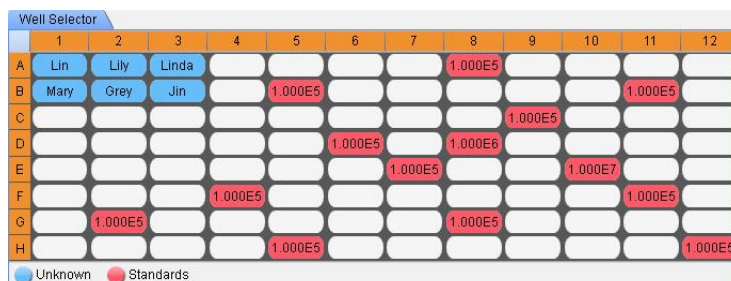

Fig 4- 4
- **Change information to display on the well plate:** As a default, the project name is displayed on the well plate. Users can change the information display on the well plate. Right-click the Well Selector, select the menu of **Well Display**, and you can choose to display the project name, patient name (Fig 4- 4), label,tube name or sample name. Users can also open the menu of **Preferences** and change the **Well Display** in the **Well Selector Options**.